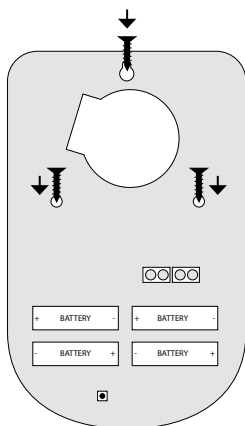

Fig. No. 53
3. Fix the siren on the wall using the screws (see Fig. No. 53).